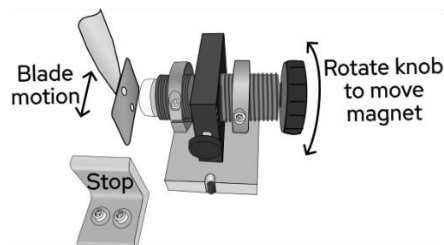

Figure 8. To increase damping, place the magnet stand on the pegs. The white capped magnet should be close to the copper blade.
- Put the magnet on the stand and mount it near the blade (Fig. 8).